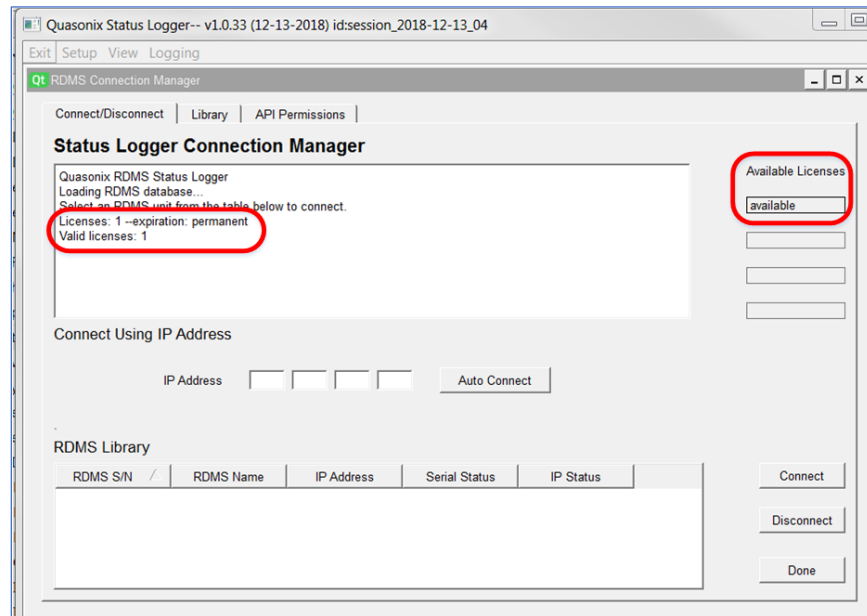

Figure 7: Quasonix Status Logger Connection Manager, Licenses Available
The Status Logger Connection Manager displays available licenses, as shown in Figure 7. You can connect to one receiver per license. Upon connection to a receiver, the Available Licenses list is populated with the number(S) in the RDMS S/N field(s) for the connected receiver(s).